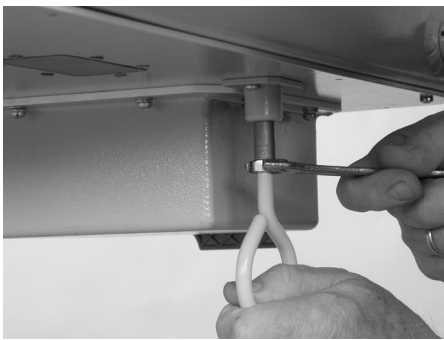

Figure 78
4. Hold the trip hook in position so it won't move and tighten to 10Nm against the trip mechanism using a 13mm spanner as shown in Fig. 78.